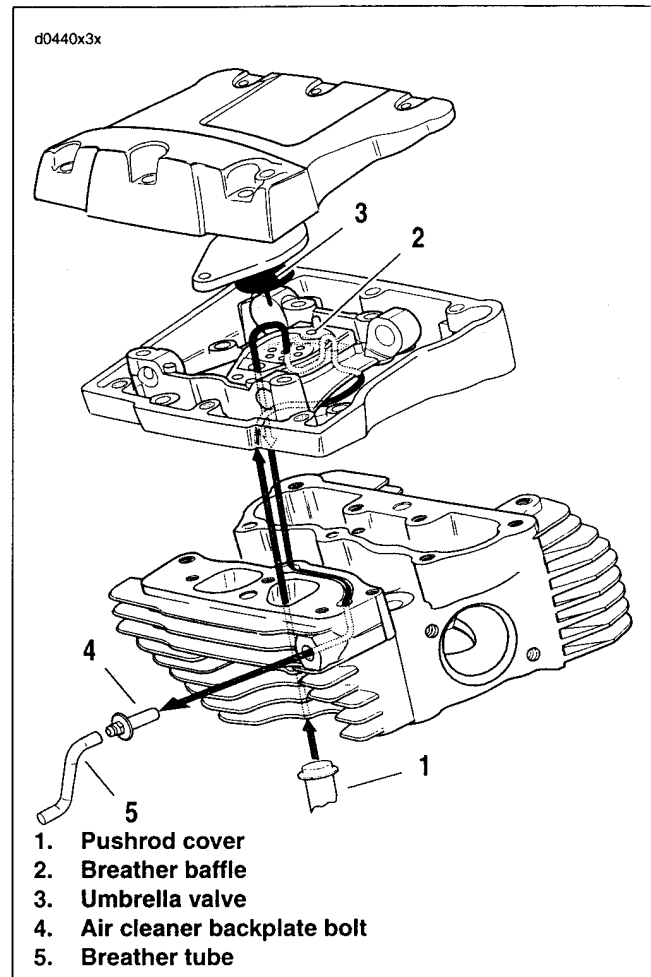

Figure 3-12. Breather Air Flow
See Figure 3-12. As each piston pushes downward on its power and intake stroke, displaced air in the flywheel compartment is vented through the crankshaft roller bearing into the cam compartment and then up the pushrod covers (1) into the rocker housing.